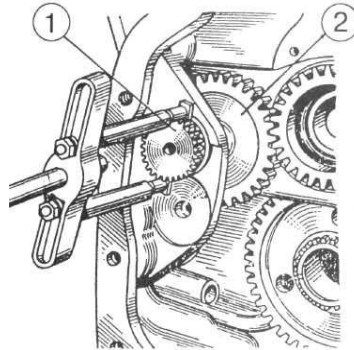

Figure 4.37
- g) press out shaft-gear 1 (Figure 4.37) together with bearingom and locking ring;